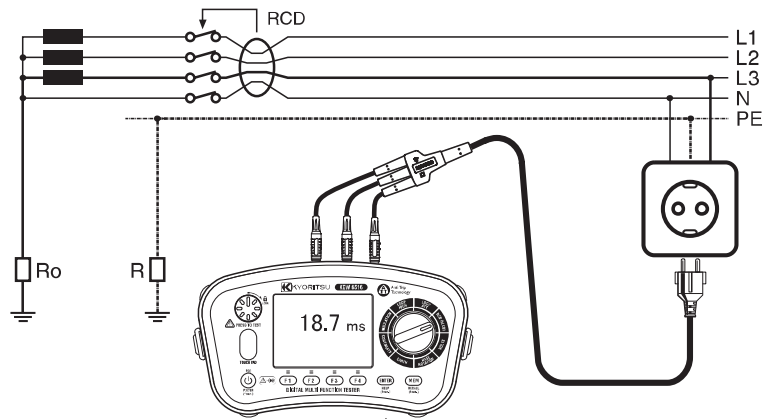

Fig. 11-1
Ground being imperfect in the Fig. 11-1, when R exists, when a fault current flows to R, electric potential occurs. There is a possibility the person contacting in this imperfect ground, it calls the voltage, which it occurs in the human body of this time, called U_c . When with the U_c Test letting flow $I \Delta N$ to the RCD, the U_c is calculated. U_c voltage is calculated based on the Rated Residual Current ($I \Delta N$) with the impedance measured.
(7) Connect the test leads to the circuit to be tested. (Fig. 11-1, 11-2, and 11-3)
(8) Wiring Check